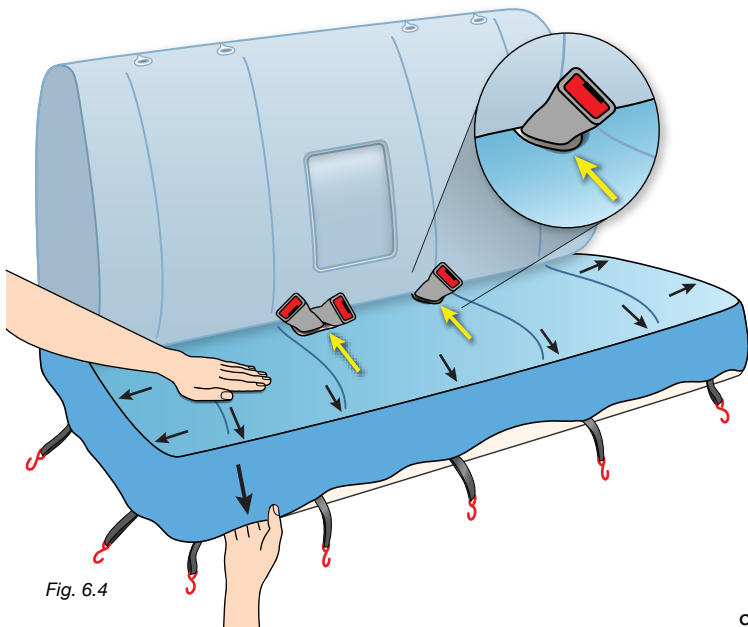
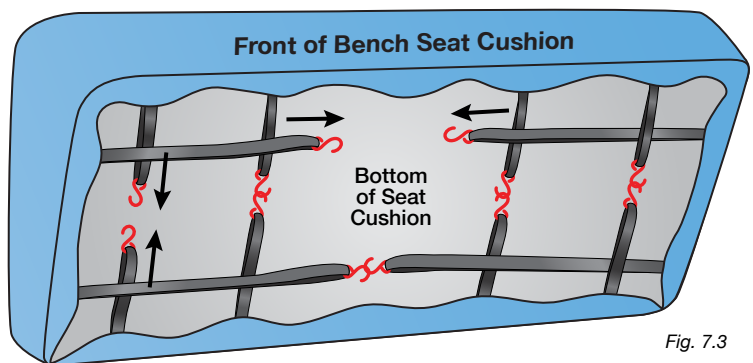

Fig. 6.4
Fig. 7.3
B. Position the seat cushion cover on the seat bottom. Attach S-hooks to the straps. Push the flap and straps through the space between the backrest and the seat cushion. If possible, fold down the seatback to get better access. Align the front and side edges of the seat cushion cover along the perimeter of the seat cushion (Fig. 6.4). If there are precut openings for seatbelt buckles in the cover, pull the seatbelt receptacles through the openings (yellow arrows). Pull the side and front fabric to the bottom of the seat cushion while holding the top of the cover in place. Make sure all the straps are accessible. Connect the elastic straps underneath the seat cushion using S-hooks.
B. With the rear seat cushion removed, position the seat cushion cover on the seat bottom. Attach S-hooks to the straps. Align the front and side edges of the seat cushion cover along the perimeter of the seat cushion. If there are precut openings for seatbelt buckles in your seat cushion cover, pull the seatbelt receptacles through the openings. Pull the side and front fabric to the bottom of the seat cushion while holding the top of the cover in place (*Fig. 6.4, Page 9*). Make sure all the straps are accessible. Connect the elastic straps underneath the seat cushion using S-hooks. (*Fig. 7.3*).